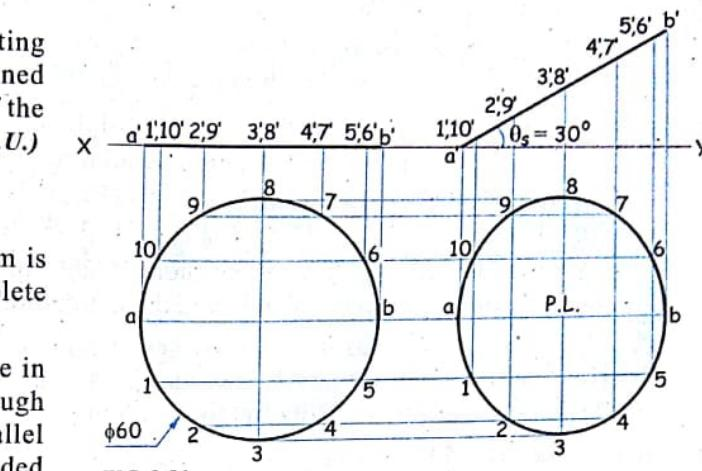

FIG. 9.21
**Solution :** Refer figure 9.21.